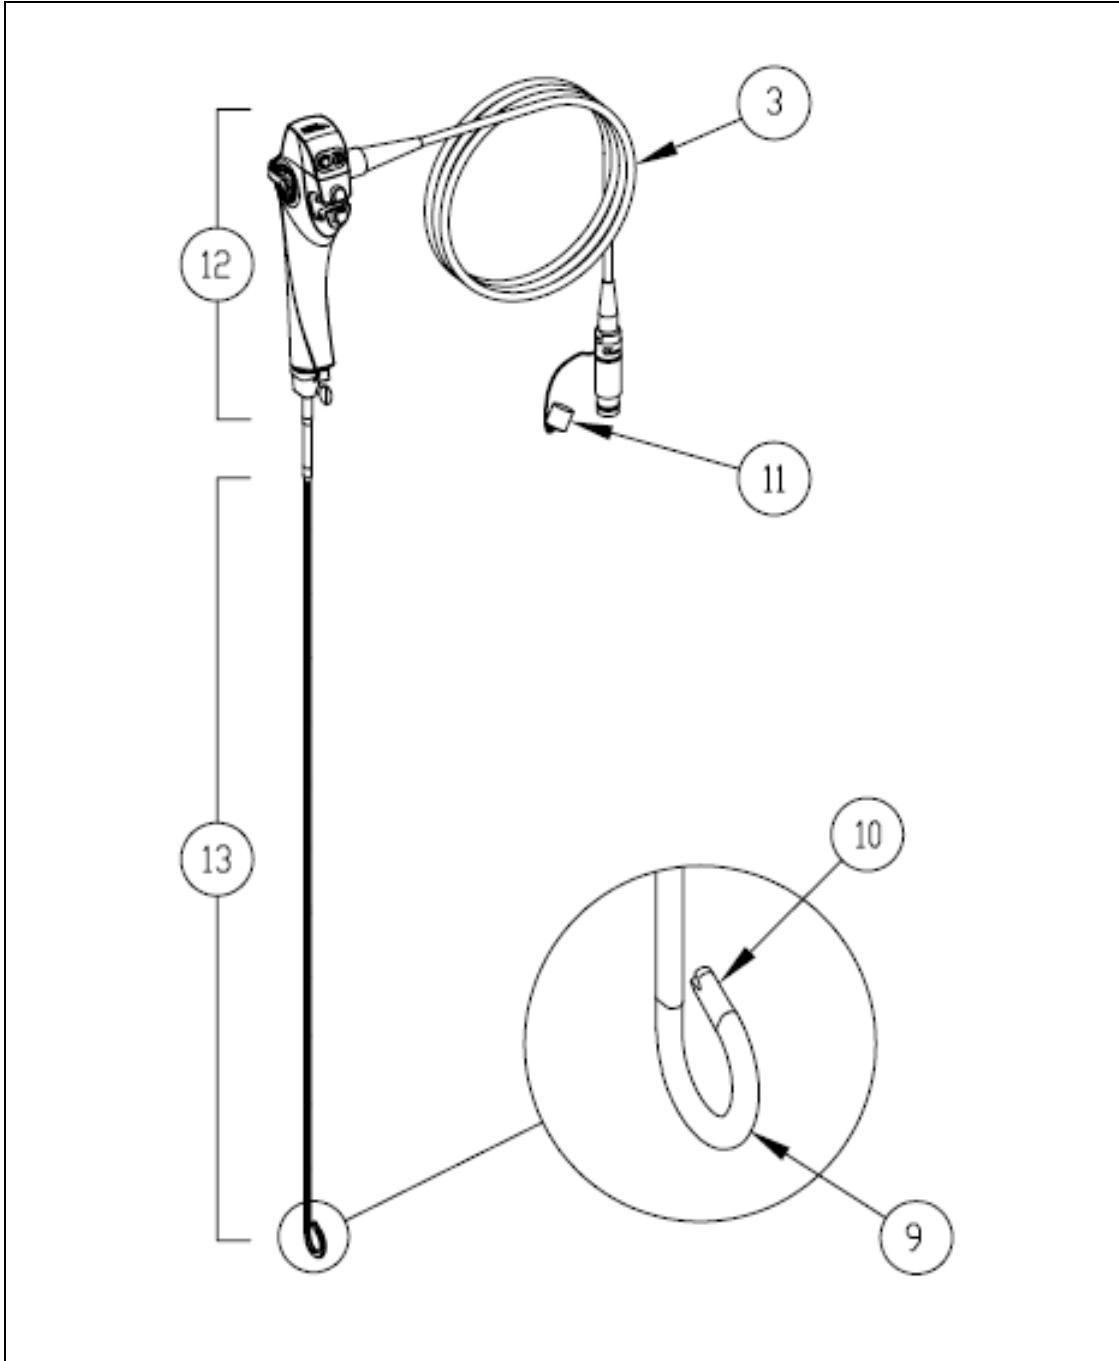

Figure 3-1: TNE-5000 Flexible Video Esophagoscope
- The **TNE-5000** Flexible Video Esophagoscope, which is shown in Figures 3-1 and 3-2 on pages 11 and 12. The endoscope's Insertion Tube has no working channel; it contains the video camera module and illumination bundles.